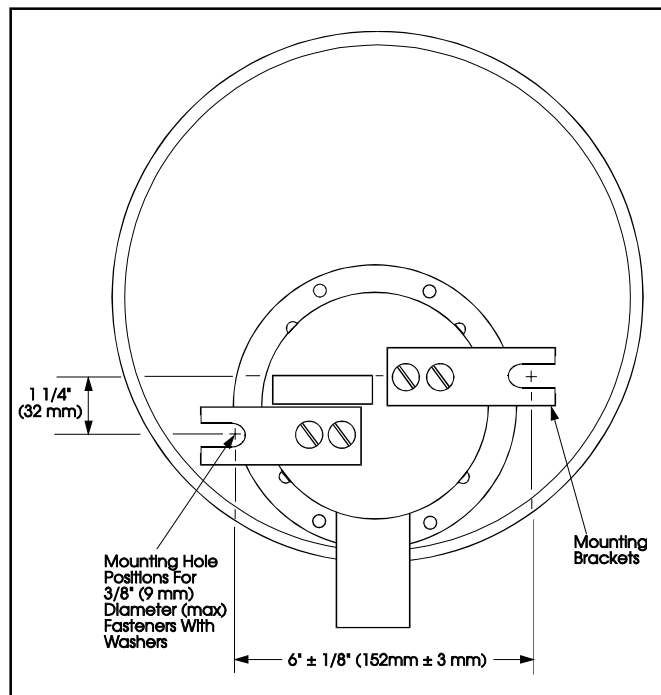

Figure 2. Dimensions for Mounting Hole Positions
2. Remove gong from bell. Place bell against mounting surface and mark mounting hole positions for fasteners per dimensions in Figure 2. Install fasteners with washers through mounting brackets and secure bell to surface. Replace gong in original orientation.